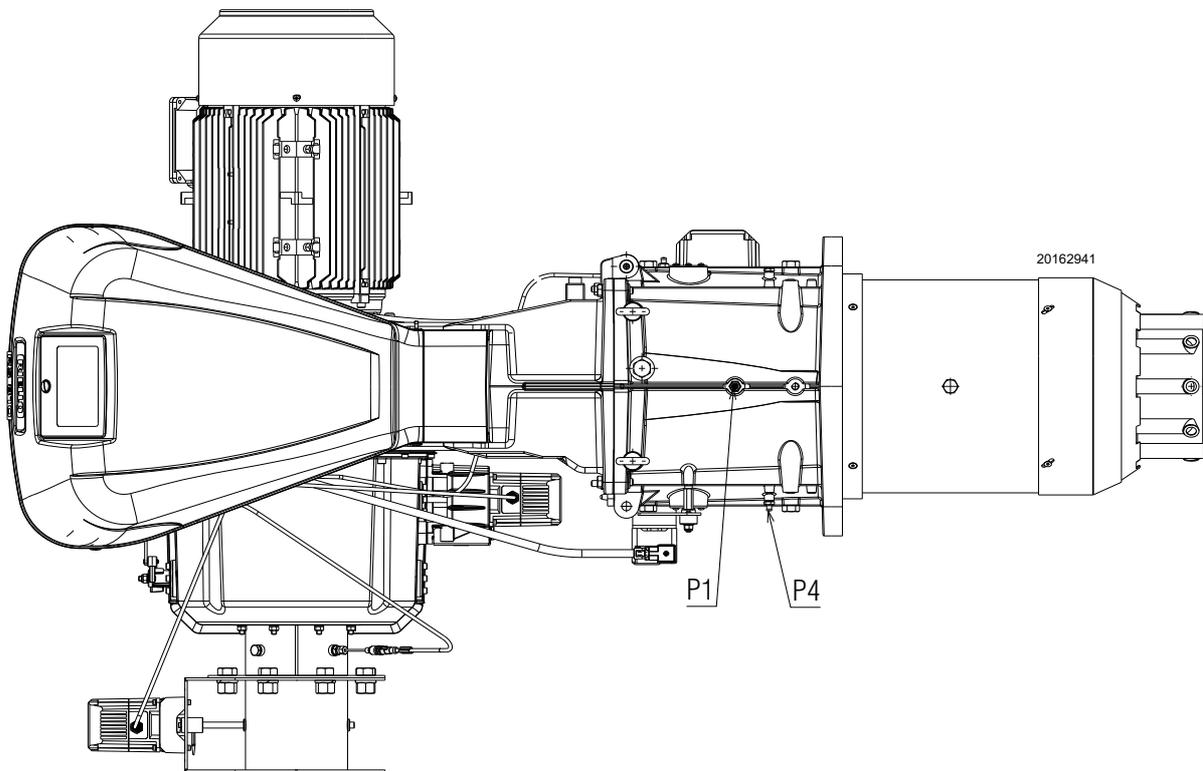

Fig. 23
Gas pressure measured at the test point P1) (Fig. 23), with:
- subtract the combustion chamber pressure from the gas pressure measured at test point P1) (Fig. 23).
$$\begin{aligned} \text{Gas pressure at test point P1)(Fig. 23)} &= 43.7 \text{ mbar} \\ \text{Pressure in combustion chamber} &= 2 \text{ mbar} \\ 43.7 - 2 &= 41.7 \text{ mbar} \end{aligned}$$
To calculate the required gas pressure at test point P1) (Fig. 23), set the MAX output required from the burner operation:
- read, on the right (column 1), the pressure at the test point P1)(Fig. 23).
Pressure required at test point P1)(Fig. 23).